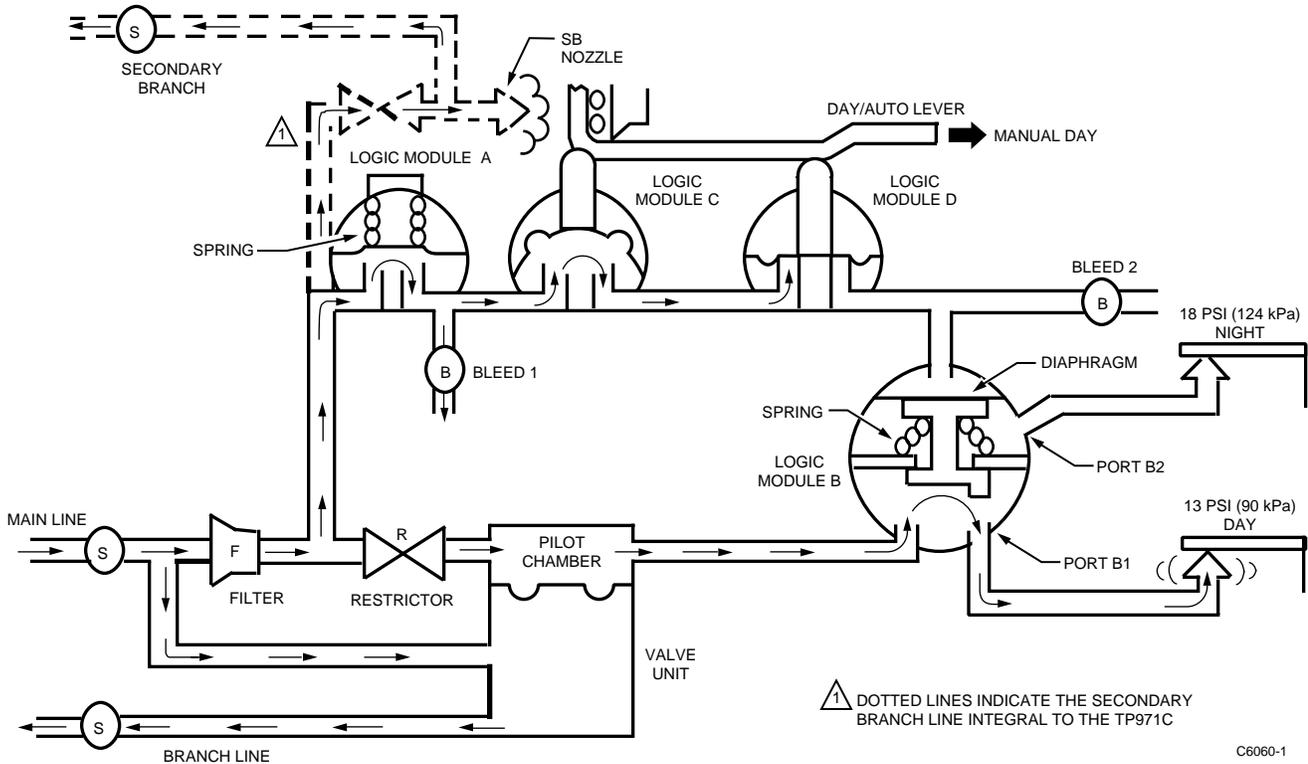

Fig. 15. TP971 and TP9610 Operation, DAY/AUTO Lever Manually Set to DAY Position—Main Air Pressure 18 psi (124 kPa).
Manual DAY Override is shown in Figure 15. With main air pressure at the 18 psi (124 kPa) (NIGHT) setting, airflow applies pressure to Logic Modules A, C, and D. However, because the DAY/AUTO lever has been manually positioned to DAY, Logic Module D is shut off, stopping airflow. Air pressure is bled from Logic Module B through Bleed 2, and the diaphragm moves up to open Port B1 and close Port B2. This condition allows an airflow path to the 13 psi (90 kPa) (DAY) nozzle-flapper and closes the airflow path to the 18 psi (124 kPa) (NIGHT) nozzle-flapper. Thus, the Thermostat works on a daytime cycle even though the main air supply pressure is at its normal night cycle main air pressure of 18 psi (124 kPa).
1. Push the DAY/AUTO switch to the DAY position. This opens the nozzle-bleed on the secondary branch line (Fig. 15).
2. The DAY/AUTO lever stays in the DAY position because of the air pressure on Logic Module C (Fig. 15).
3. The main air pressure in the secondary branch line bleeds down through the secondary branch nozzle. The secondary branchline restrictor maintains normal night system pressure in the rest of the Thermostat. However, airflow is now diverted to operate the nozzle-flapper on the DAY mode sensing element (Fig. 15).